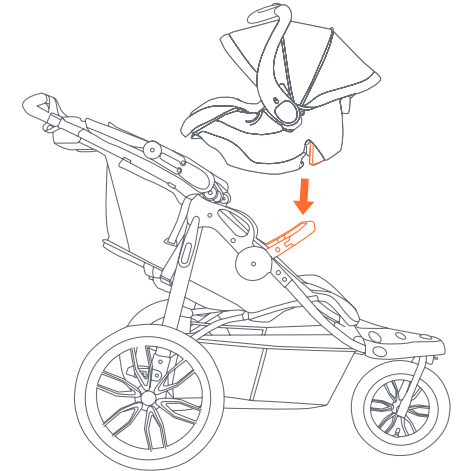

Fig. 17a
- 17) • Position the infant car seat so that it faces toward the rear of the stroller and the car seat base hooks lock onto the bumper bar (Fig. 17a).